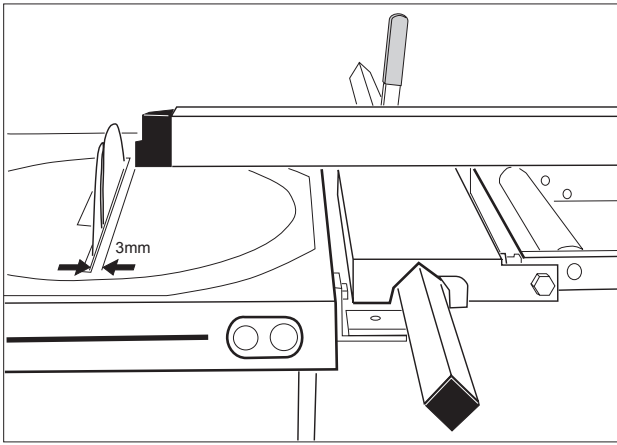

Fig. 6
- Fasten the fence so that the end-piece of the fence is 3 mm from the saw blade and the scale displays the correct value (Fig. 6).
A green ON button and a red OFF button are located on the saw's front panel (Fig. 6). The ON button is equipped with a lockable cover. The saw is provided with a low-voltage cutout as well as overload protection which disconnects the power supply under overload conditions to prevent motor damage. If this occurs, let the motor cool down for a few minutes, after which it will be ready to run again. Try to avoid overloading motor.